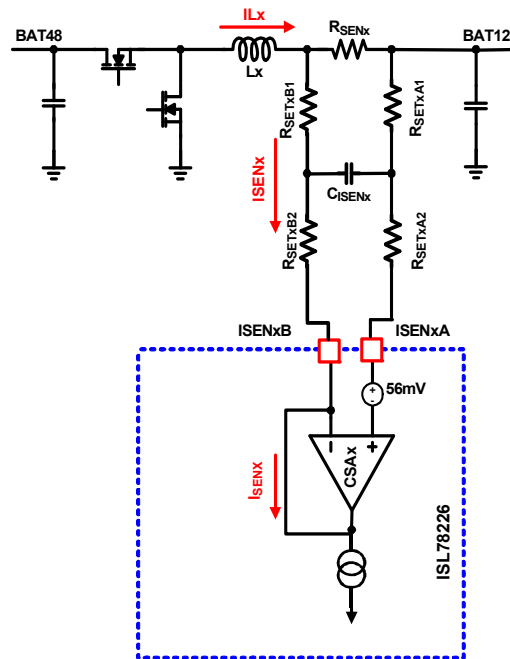

Figure 130. Current-Sensing Block Diagram for Individual Phase I_{SENx}
The ISL78224 peak current control architecture senses the inductor current of each phase continuously for fast response. A sense resistor (shunt) is placed in-series with the power inductor for each phase. The ISL78224 Current-Sense Amplifiers (CSA) continuously sense the respective inductor current (as shown in Figure 130) by sensing the voltage signal across the sense resistor R_{SENx} (where “x” indicates the specific phase number and same note applied throughout this document). The sensed current for each active phase is used for peak current mode control loop, phase current balance, individual phase cycle-by-cycle peak current limiting (OC1), individual phase overcurrent fault protection (OC2), averaged Constant Current Limit (CCL) control, Average Overcurrent Protection (AOCP), Diode Emulation (DE), and Phase Drop/Add control. The internal circuitry shown in Figure 130 represents a single phase and is repeated for each phase.
The recommended configuration of the RC network between the R_{SENx} and ISENxA/ISENxB pins is shown in Figure 130. The current gain setting resistor, R_{SETxB} , is R_{SETxB1} plus R_{SETxB2} in Figure 130. That sum should be fixed at $1k\Omega$ for equal boost and buck current indications at I_{MON} .
Renesas recommends that $R_{SETxA} = R_{SETxB}$ and that all four resistors are as equal in value as standard values allow. Insert a capacitor, C_{ISENX} , between them as shown in Figure 130. This forms a symmetric noise filter for the small current-sense signals. The differential filtering time constant equals $(R_{SETxA1} + R_{BIASxB1}) * C_{ISENX}$. This time constant is typically selected in the range of tens of ns depending on the actual noise levels.